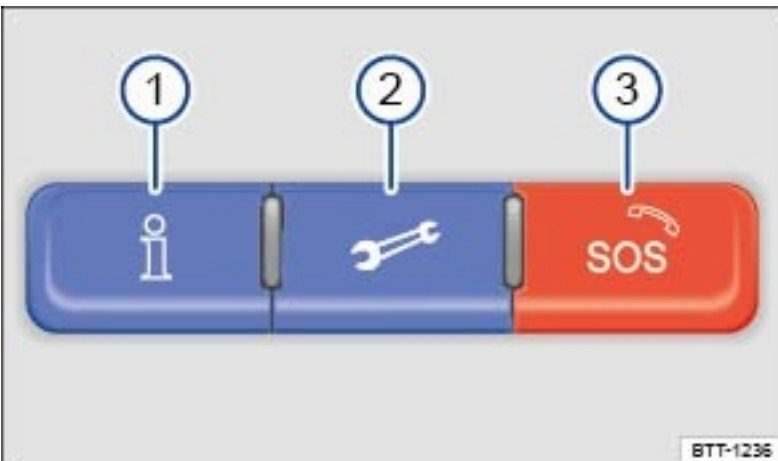
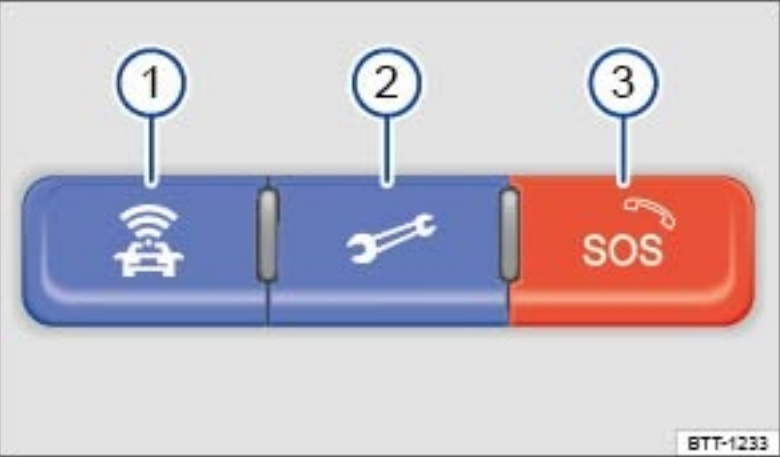

Fig. 18 In the roof console: 3-button module to access Volkswagen Car-Net service operators (Version 1).
Fig. 19 In the roof console: 3-button module to access Volkswagen Car-Net service operators (Version 2).
You can access Volkswagen Car-Net services via your Volkswagen Car-Net iPhone® or Android® app (text and data rates apply) and the Volkswagen Car-Net website (<http://www.vw.com/carnet>). If you have a question or would like to subscribe, please either press the → Fig. 18 ① or → Fig. 19 ① button in your vehicle or contact the Volkswagen Car-Net Response Center at 1-877-820-2290. For more information or to log on to your Volkswagen Car-Net account, visit <http://www.vw.com/carnet>.
(<http://www.vw.com/carnet>), press the → Fig. 18 ① or → Fig. 19 ① button in the 3-button module in your vehicle or contact the Volkswagen Car-Net Response Center at 1-877-820-2290.
→ Fig. 18 or → Fig. 19	Function